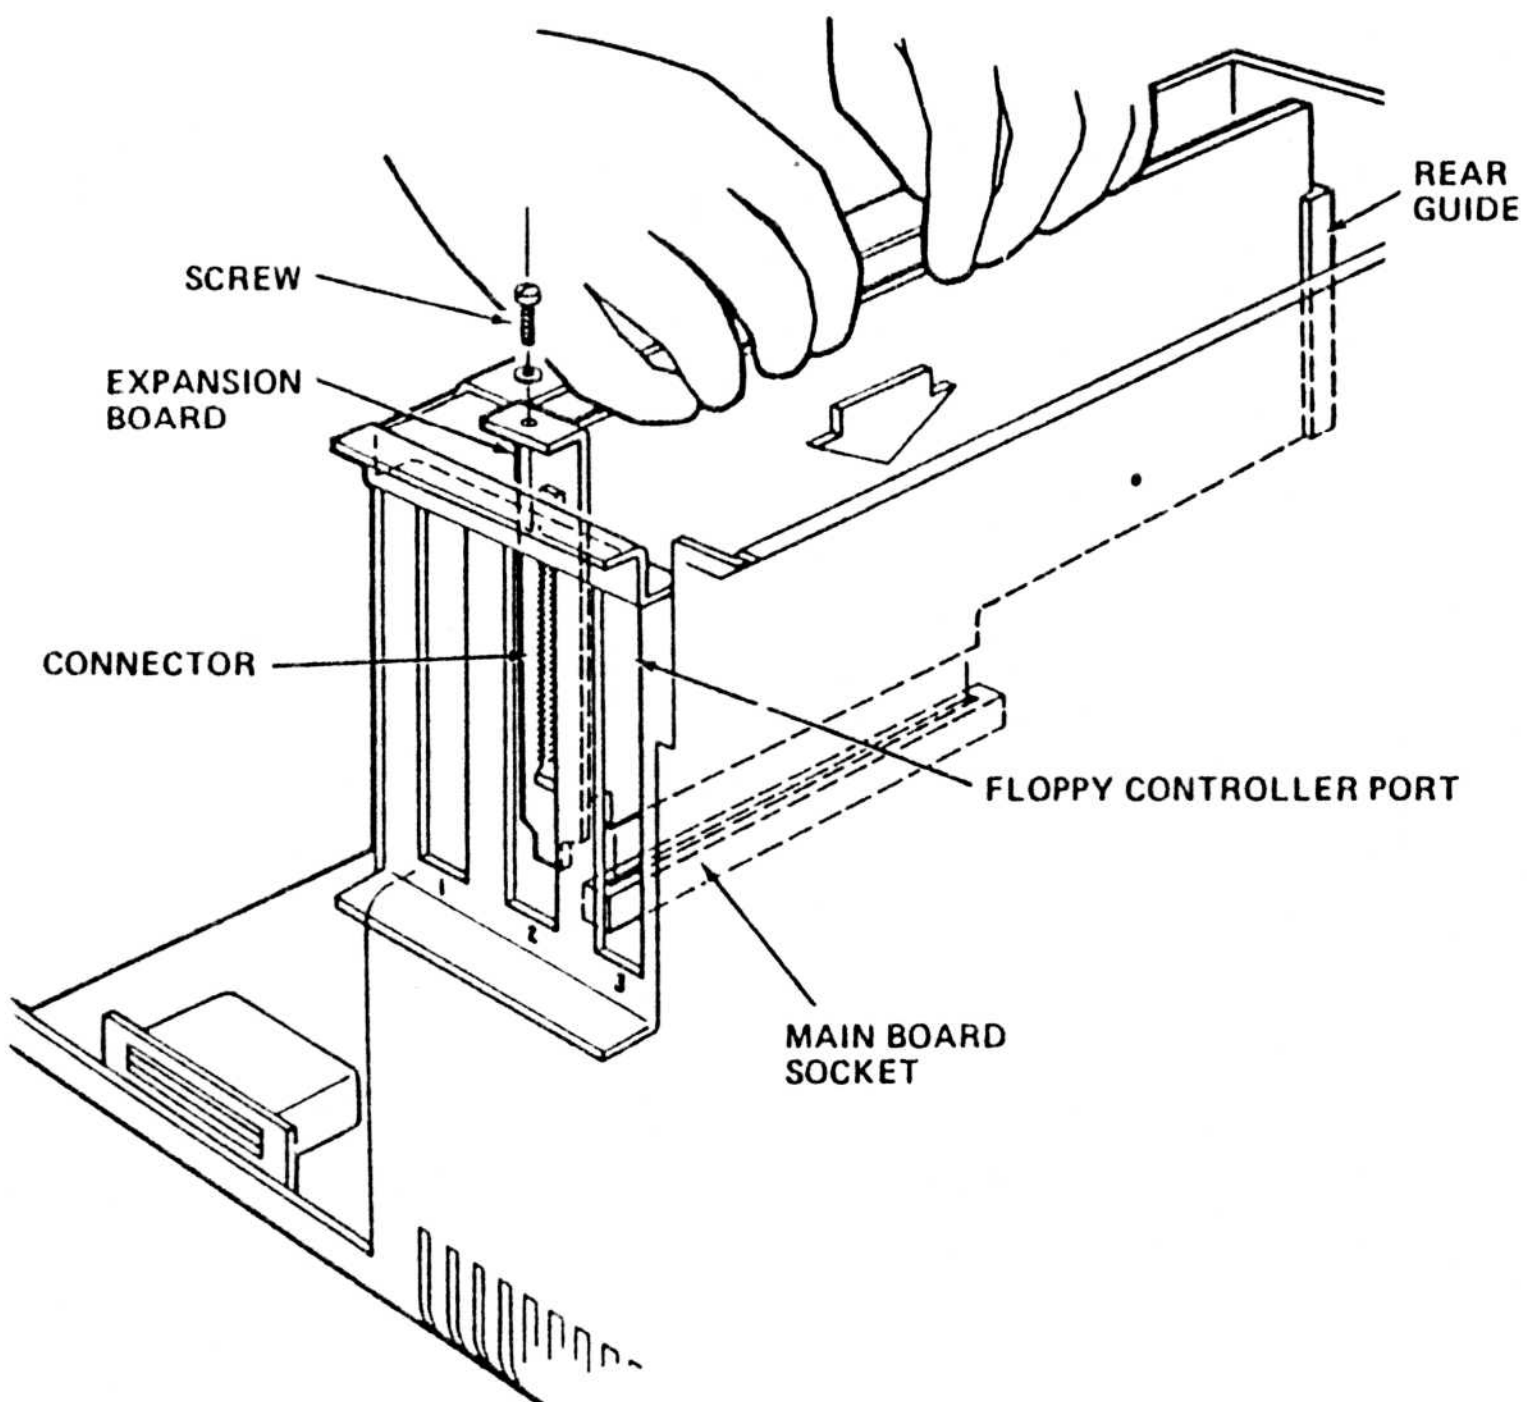

FIGURE 1: PC BOARD REMOVAL
- STEP 6** If you want to be sure not to scrape your hands on the interface boards, perform this step. Remove the ribbon cables from the boards. Remove all boards by removing the slot screw and washer located on the top of the slot covers. Refer to Figure 1. Set the boards to one side.
- STEP 21** If you took out the interface boards in STEP 6, reinsert the boards into the sockets on the main board. Refer to Figure 1.